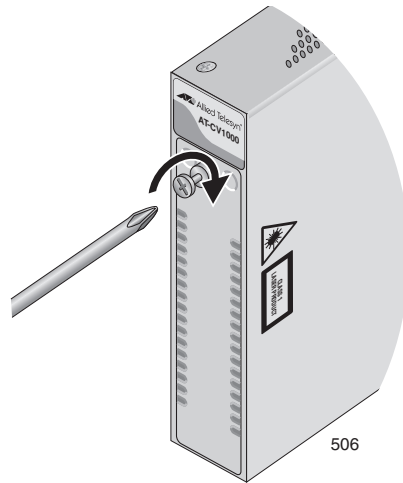

Figure 22. Tightening the Captive Screw on an AT-CV5PNL1 Blank Slot Cover
6. Use a Phillips screwdriver to tighten the captive screw, as shown in Figure 22.